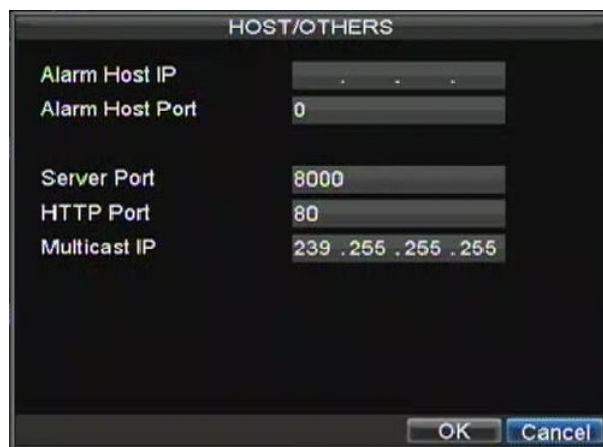

Figure 10. Host/Others Menu
4. Set **Multicast IP**, as shown in Figure 10. When adding a device to the Network Video Surveillance software, the multicast address must be the same as the DVR's multicast IP.